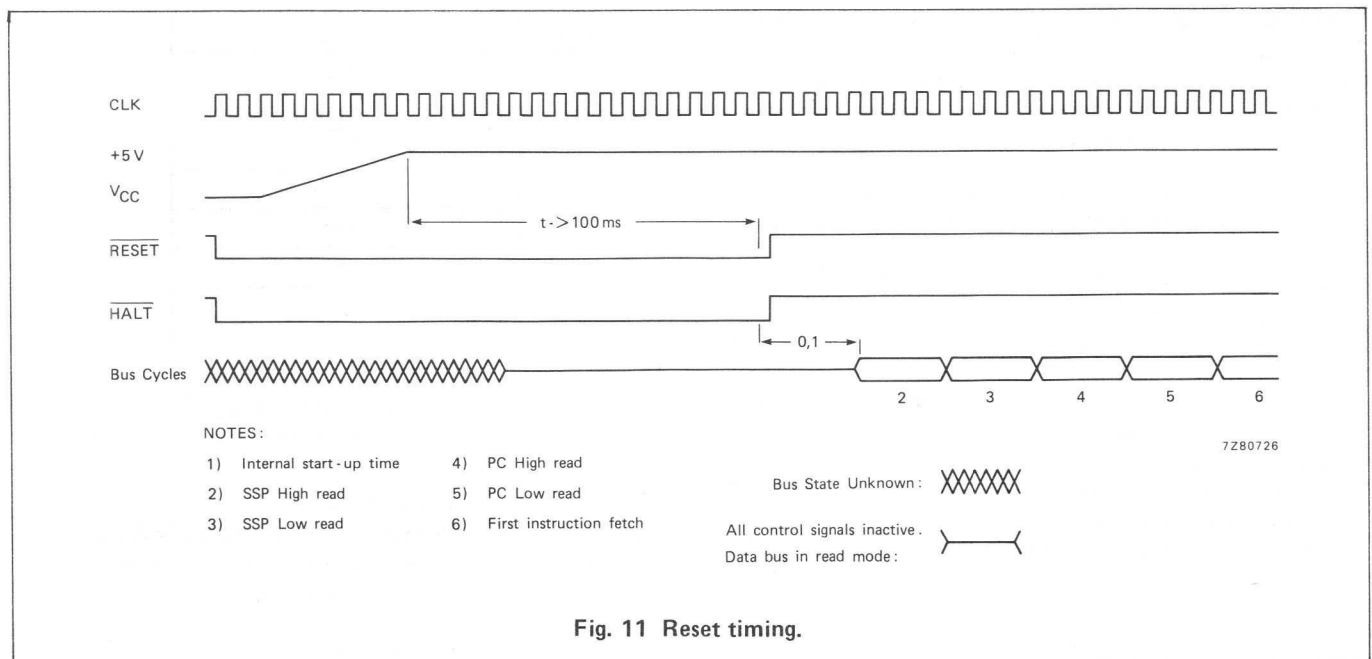

Fig. 11 Reset timing.
When the CPU executes a RESET instruction, the  $\overline{\text{RESET}}$  signal is driven LOW for 146 clock cycles to reset internal and external peripherals. In this case the CPU itself is not affected, but all on-chip peripherals are reset. When both the  $\overline{\text{RESET}}$  and  $\overline{\text{HALT}}$  signals are driven LOW by an external device, the CPU and on-chip peripherals are reset. The CPU responds by reading the reset vector table entry (vector number zero, address 000000 HEX) and loads it into the Supervisor Stack Pointer (SSP). Vector table entry number one (at address 000004 HEX) is read next and loaded into the Program Counter (PC). The CPU then initializes the Status Register (SR) to an interrupt level of seven and instruction execution is started (see Fig. 11).